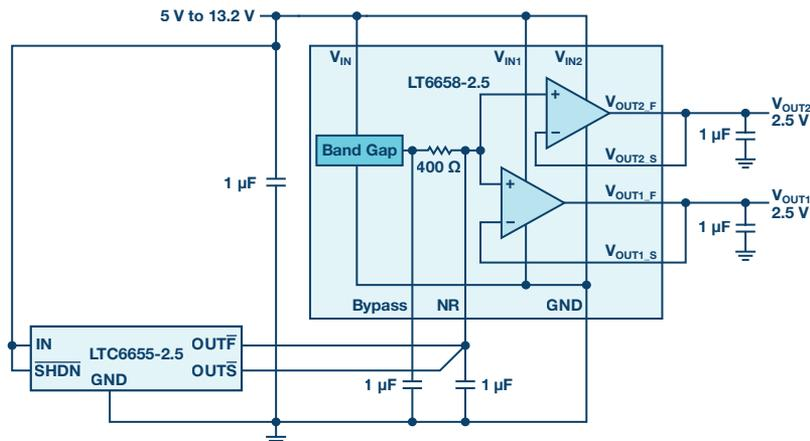

Figure 16. A low drift, high current application.
Figure 16 illustrates how an LTC6655-2.5 low noise reference can overdrive the NR pin of the LT6658. The result is a dual output, low temperature coefficient (TC), high current reference. A variation of this circuit includes adding gain to one of the channels and driving the LTC6655's  $V_{IN}$  pin. The LTC6655-2.5 requires 500 mV headroom, necessitating a minimum 3 V output from one of the LT6658's buffers.